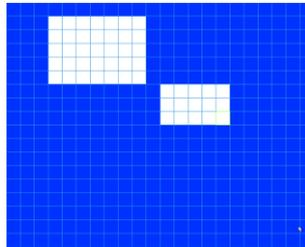

Figure 4-23
- Region: Click select button, the interface is shown as in Figure 4-23. Here you can set motion detection zone. There are 396(PAL)/330(NTSC) small zones. Blue zone is the motion detection zone. White zone is the disarmed zone. System can only detect motion detect signal from the arm region. You can click Fn button to switch between the arm mode and disarm mode. In arm mode, you can click the direction buttons to move the green rectangle to set the motion detection zone. After you completed the setup, please click ENTER button to exit current setup. Do remember click save button to save current setup. If you click ESC button to exit the region setup interface system will not save your zone setup.
In Figure 4-23, you can left click mouse and then drag it to set a region for motion detection. Click Fn to switch between arm/withdraw motion detection. After setting, click enter button to exit.